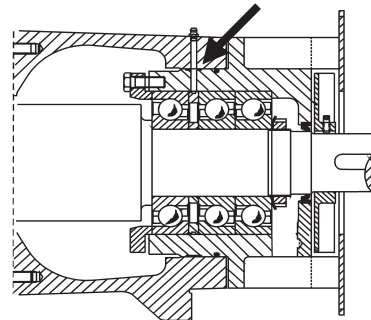

Fig. 15
6. Heat the bearing housing to approximately 50°C and push it over the bearings. Position the hole in the bearing housing over the slot in the outer distance ring to facilitate the passage of grease, as in Fig. 15.
The hole in the bearing housing should be positioned in line with the grease nipple in the bearing bracket. See Fig. 15. The grease can now pass straight from nipple to bearing.